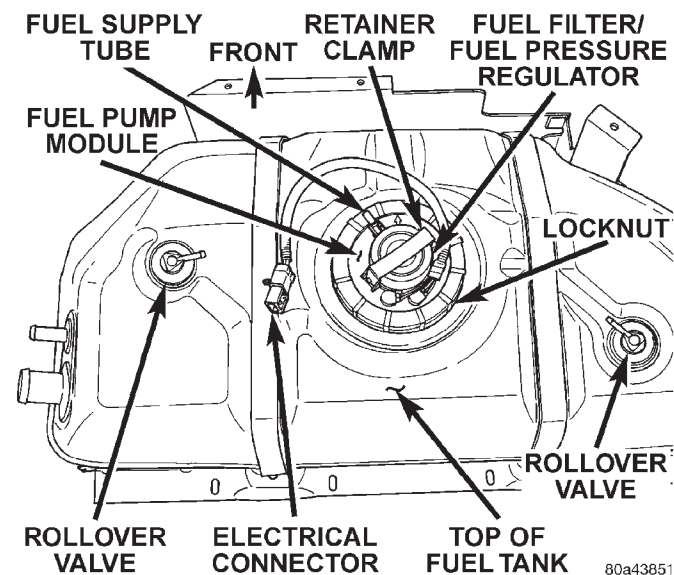
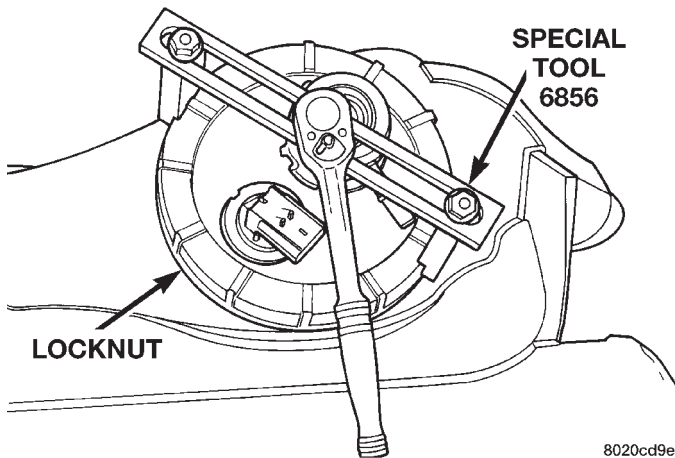

Fig. 25 Top View of Fuel Tank and Fuel Pump Module
Fig. 26 Locknut Removal/Installation—Typical INSTALLATION
(1) Drain fuel tank and remove tank. Refer to the Fuel Tank Removal/Installation section of this group.
(2) Thoroughly wash and clean area around pump module to prevent contaminants from entering tank.
(3) The plastic fuel pump module locknut is threaded onto fuel tank (Fig. 25). Install Special Tool 6856 to fuel pump module locknut and remove locknut (Fig. 26). The fuel pump module will spring up when locknut is removed.
(4) Remove module from fuel tank.